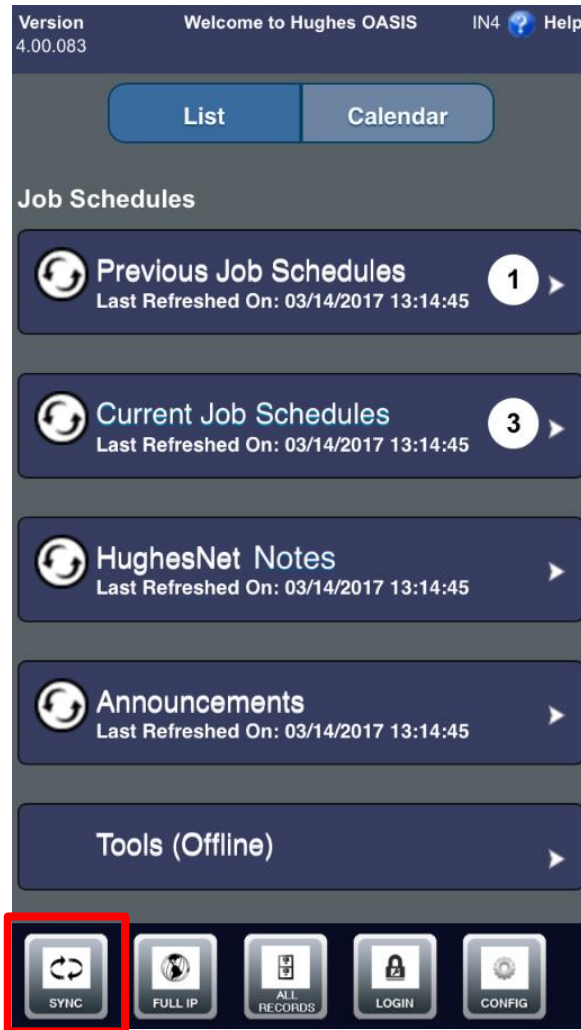

Figure 2: OASIS homepage – list view
4. The OASIS home page appears (Figure 2). Tap the **Sync** button in the bottom-left corner to sync the app.
The OASIS homepage (Figure 2 on page 7) contains menus for previous jobs, current jobs, current HughesNet notes, announcements, and offline tools. Tap a menu to expand it. Tap the refresh icon (🔄) to refresh a specific menu. The contents of each menu are explained below.